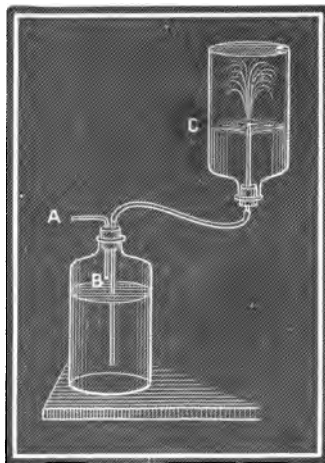

Fig. 22.—Ammonia Fountain.
EXP. 46 (45 concluded).—Quickly close mouth of bottle of ammonia by perforated rubber cork, through which passes a glass tube drawn to a fine point and connected with water colored *red* by slightly acidulated litmus solution. Hasten the action by forcing air into lower flask (through tube A B, Fig. 22, till a few drops of water reach the receiver (C) of ammonia. The gas dissolves so rapidly in the water that a partial vacuum is formed, and the outside atmospheric pressure acting through A B produces the “ammonia fountain.” The water turns blue as it enters the receiver.